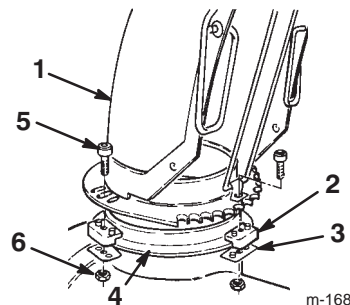

Figure 13
1. Apply a light coat of low-temperature grease to the chute ring (Fig. 13).
2. Set the discharge chute (open side forward) onto the discharge opening so that the chute retainers are on the chute ring (Fig. 13).
3. Tighten the screw and the locknut on the left side to position the chute retainer against the chute retainer plate and to secure the discharge chute to the chute ring (Fig. 13).
4. Push the other chute retainers toward the discharge chute (slotted), and tighten the screws (Fig. 13).
5. Ensure that the chute rotates freely on the chute ring. If the chute binds, move the right-hand retainer outward (Fig. 13).